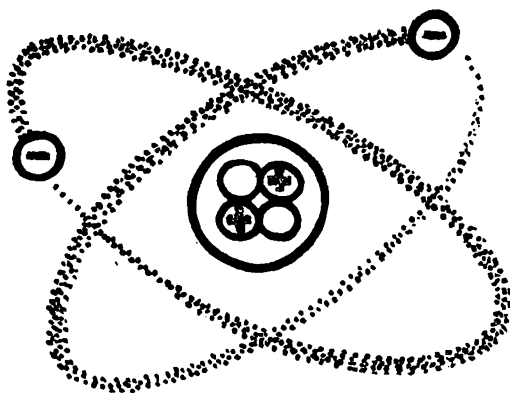

Fig. 36
One model represents the atom as a positively charged nucleus surrounded by negative charges called electrons (Fig. 36). The particles in the nucleus are referred to as *nucleons*. *If an atom is neutral how will the number of protons in it compare with the number of electrons? (5) What particles, apart from protons, are found in the nucleus? (6) Are they electrically charged? (7)*